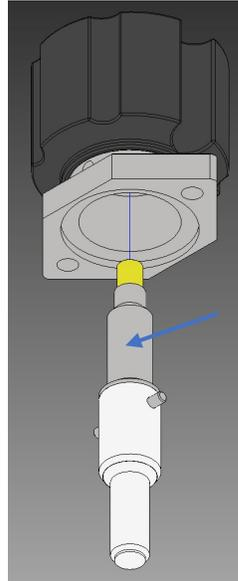

FIGURE F. 15. - STEM INSTALLATION
5. Add FDA compliant lubricant to the stem threading, as required. Rotate the stem counter-clockwise to screw the wetted stem, threaded stem and corresponding parts into the rest of the assembly (see Figure F.15.)